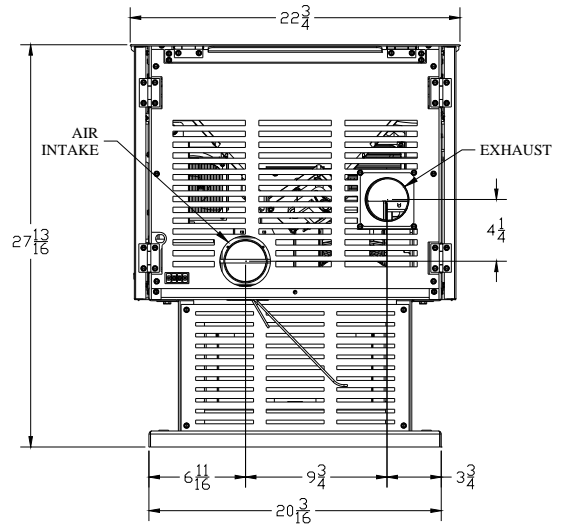
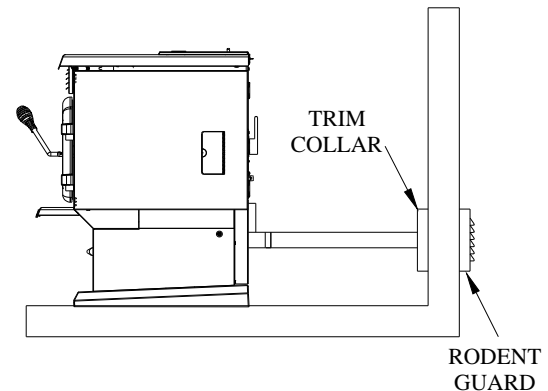

Figure 4
Figure 5
For a mobile home installation the stove must be connected to an outside source of combustion air. A 3" inside diameter metallic pipe, either flexible or rigid, may be attached to the inlet at the stove's rear (refer to figures 4, 5 & 6). A rodent guard (minimum ¼" wire mesh) must be used at the terminus (refer to figure 5). All connections must be secured and airtight by either using the appropriately sized hose clamp and/or UL-181-AP foil tape.
- A hole in the wall behind the stove.(Figure 5)
2. Locate position of hole in wall; directly behind stove exhaust vent (refer to figure 4).